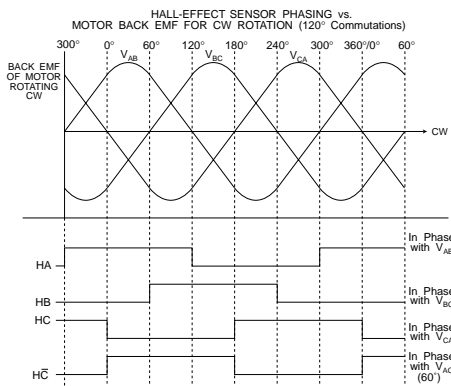

FIGURE 4. HALL PHASING
The PW-82520R will alternately operate with Hall phasing of 60° electrical spacing. If 60° commutation is used, then the output of HC must be inverted as shown in FIGURES 4 and 5. FIGURE 4 illustrates the Hall sensor outputs along with the corresponding back emf voltage they are in phase with.
* DIRECTION is based on the convention shown in FIGURE 4.